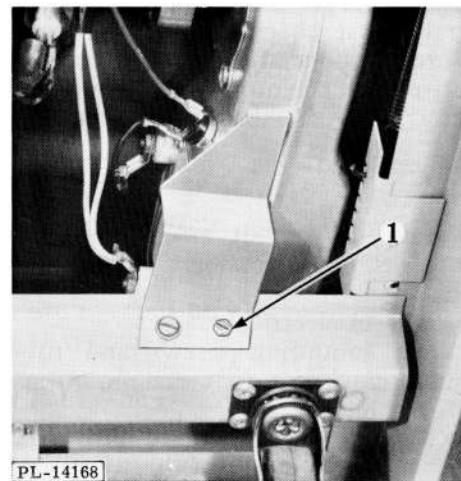

Fig. 27
To remove (KD-58 models only) (See Fig. 27):
3. Loosen two screws holding assembly to frame (1, Fig. 27).